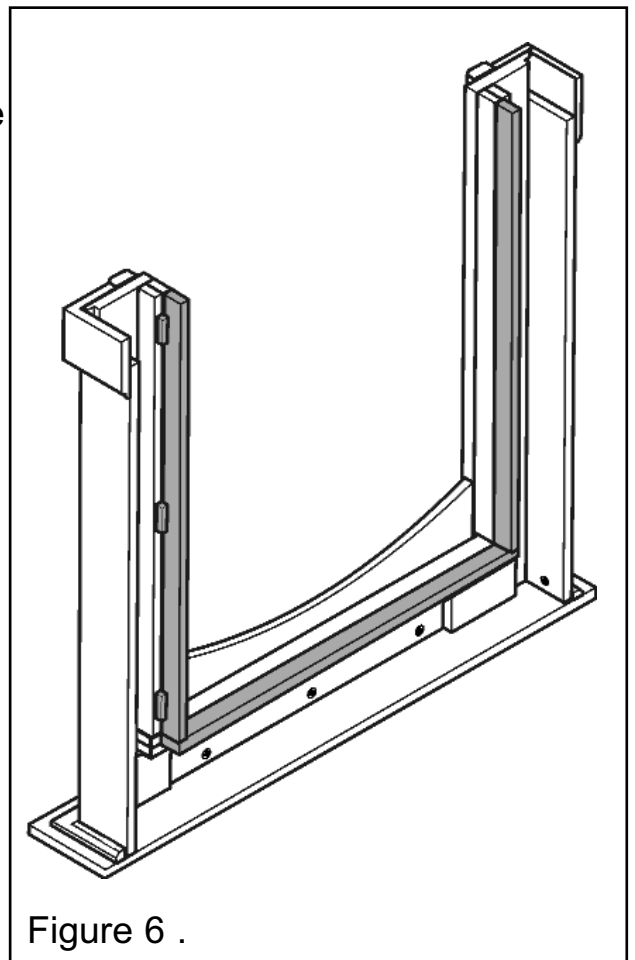

Figure 6 .
- The surround is supplied for use with gas fire installations. For electric heater installations the infill strips (Gas rails) will need to be removed. To do this simply unscrew and remove the screws from the gas rails and support blocks. The gas rails are highlighted in figure 6.